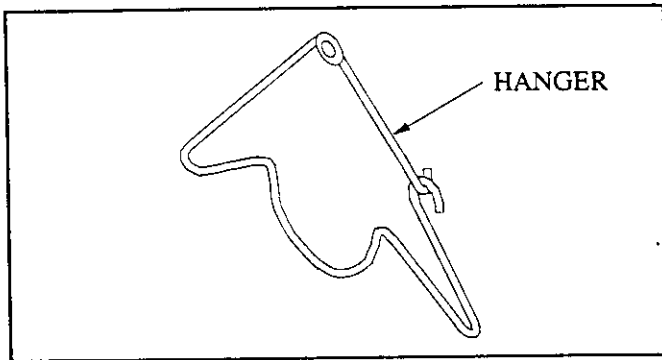
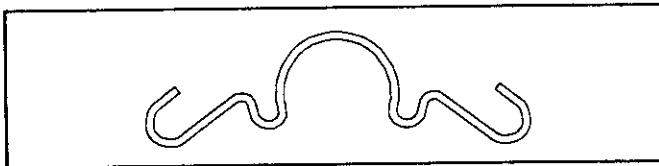

Figure 1-4
Figure 1-5
1. Each heater comes equipped with the necessary hangers (Figure 1-4) for hanging. The DTH20 requires three hangers, the DTH40 four hangers, and the DTH60 five hangers. Each heater also comes with one reflector center support (Figure 1-5) for each 10-ft section of reflector and one DTH Installation Kit.